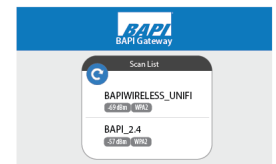

Fig. 3: Available Wi-Fi Networks
2. Using the same device, open a web browser and enter "10.10.0.1" into the address bar, not the search bar. The gateway's list of available Wi-Fi Networks will come up (Fig 3).